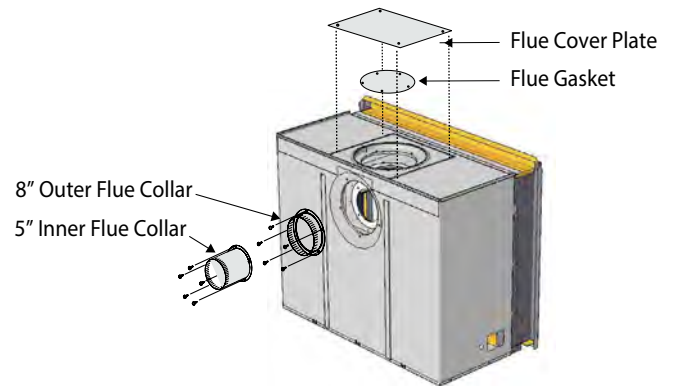

Figure 8a. Flue cover and collar installation, Rear Vented fireplace.
3. Install the (removed) Rear flue cover and gasket material, to the Top vent outlet. Fasten the cover with included hardware, as illustrated Figure 8a.
4. Install the (5" and 8") collars to the rear vent outlet using the included hardware, as illustrated Figure 8a.